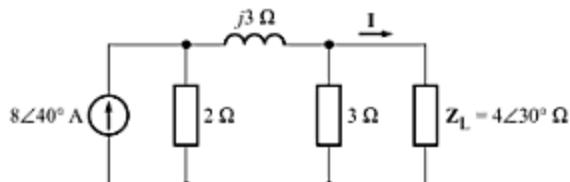

Fig. C-59
- C-90. Use current division twice to find  $\mathbf{I}$  for the circuit shown in Fig. C-59. [Ans.  $1.41\angle-19.5^\circ \text{ A}$ ]